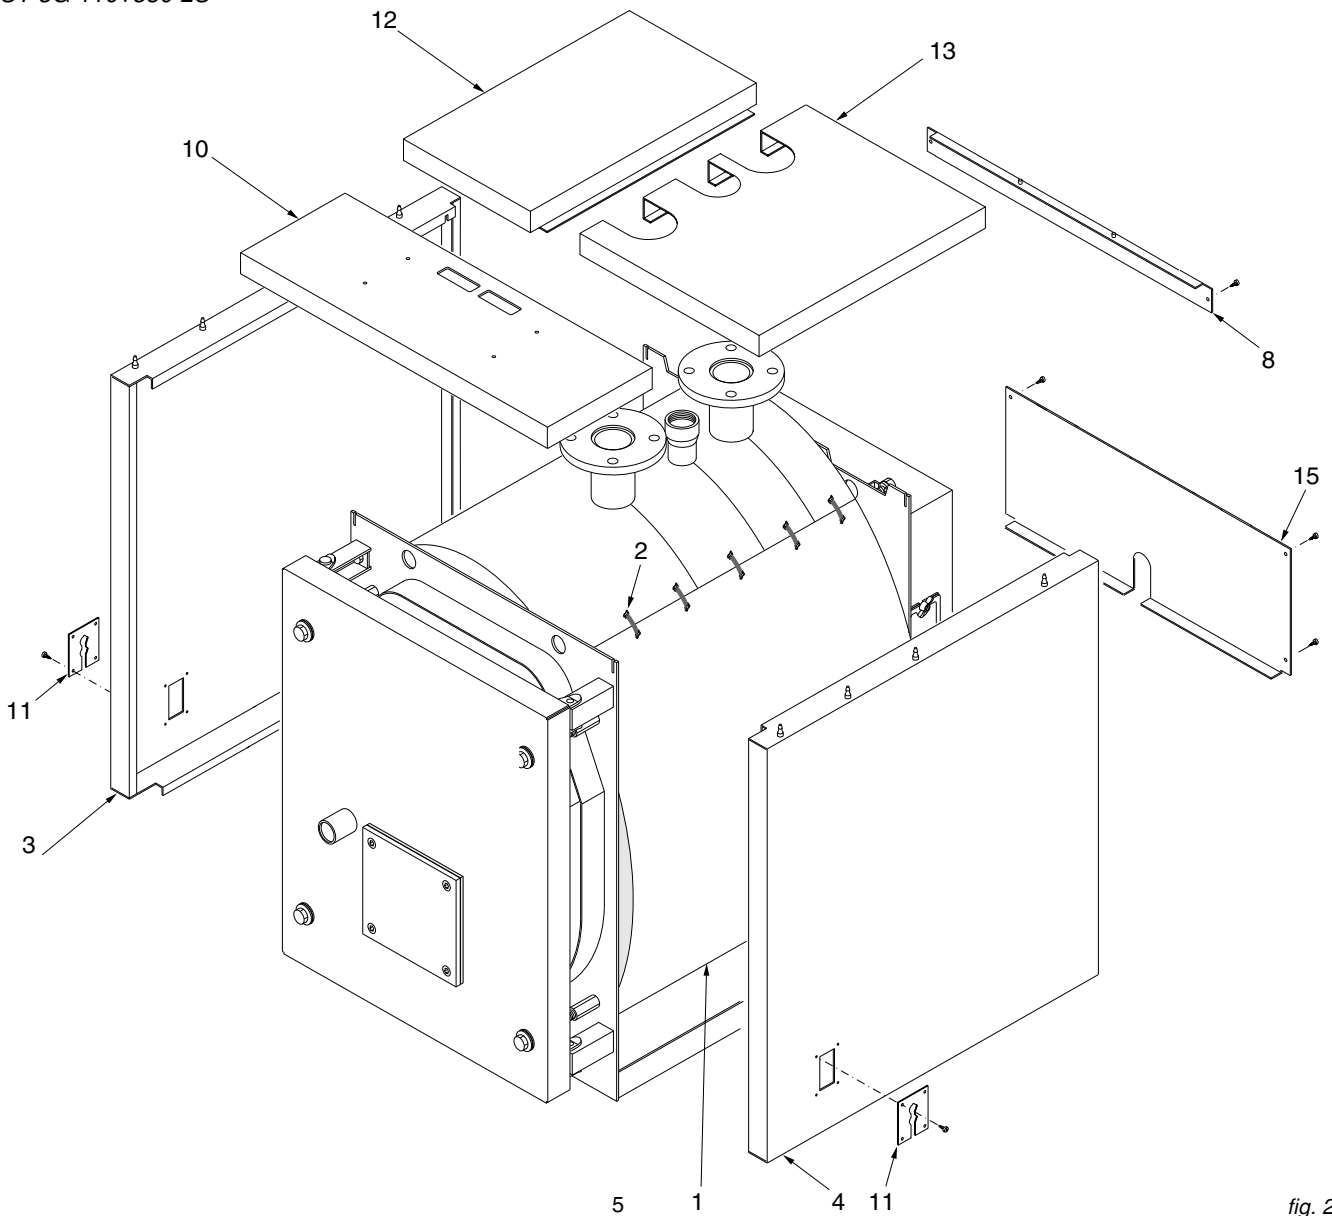

fig. 26
**N.B.** For models from **TST 3G 110 2S** to **TST 3G 380 2S** (ref. fig. 26 and 27), the casing and insulation are contained in 1 box marked:
### Assembly sequence (Ref. fig. 26 and 27)